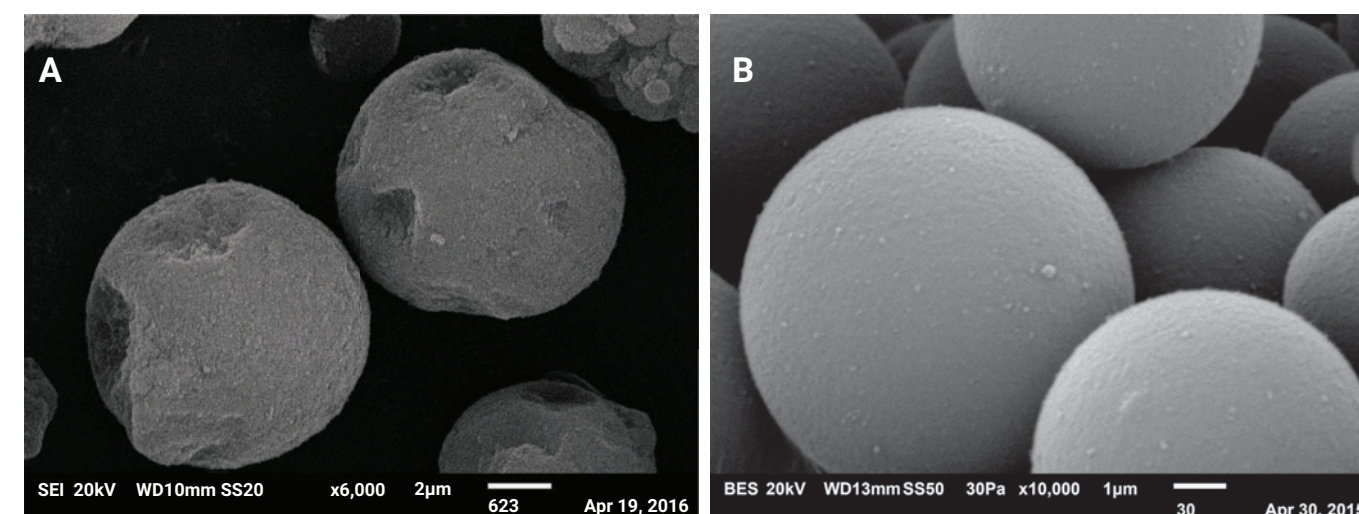

Figure 2. SEM showing particles (A) with and (B) without fragmentation.
Table 2 and the corresponding Figure 2 compare results for the same PS sample evaluated using artificially wrong evaluation parameters for the method-calibrated RI and known dn/dc.
Figure 2. Molecular weight distributions obtained using light scattering detection with correct and artificially wrong parameters for slice concentration detection based on a calibrated RI and known dn/dc.
The challenges in GPC/SEC–LS are the same for both column types. The reason for this is the particular structure of the stationary phase. Column packing materials are typically made of particles in the range of < 2 to $20\ \mu\text{m}$. Particles in the nanometer range are formed as well. These nanometer-sized particles and the particle fragments formed during postpolymerization processes (Figure 2) cause the problems described. They cannot be retained by the frits installed in the columns or by externally installed frits because they are generally much smaller than the mesh size of the frits.
Figures 1 and 2 show a raw data comparison of mixtures of four different molar masses for polystyrene (PS) and polymethyl methacrylate (PMMA) in tetrahydrofuran (THF) for an RI detector (Figure 1) and a light scattering detector (Figure 2, MALS, 90° only). While concentration and injection volume are the same for both mixtures and the molar masses are comparable, the dn/dc values are very different. Under these conditions, PS has quite a high dn/dc of 0.184 mL/g, while the PMMA dn/dc is much smaller at 0.089 mL/g. It is clear from the figures that the signal intensities and peak areas for the PS RI signals are much higher than for PMMA. This is even more pronounced for the light scattering signal because this signal depends on dn/dc .² It is also important to note that as the dn/dc gets higher, the lower the molar masses that can be detected (under the same analytical conditions).
Figure 2. MALS 90° detector signals for a mixture of four different polystyrene molar masses (green trace, $dn/dc = 0.184$ mL/g) and four different polymethyl methacrylate molar masses (pink trace, $dn/dc = 0.089$ mL/g). Conditions: peak 1: 0.5 mg/mL, peaks 2 to 4: 1 mg/mL. Molar masses PS/PMMA: 1.2/1.0 MDa, 130/202 kDa, 17.6/18.7 kDa, 1,250/2,380 Da.